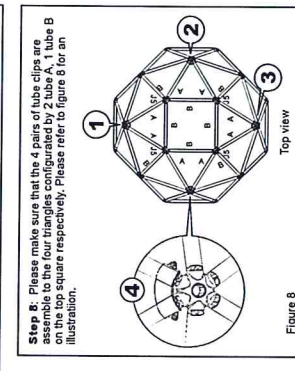

Figure 8
**Step 8:** Please make sure that the 4 pairs of tube clips are assembled to the four triangles configured by 2 tube A, 1 tube B on the top square respectively. Please refer to figure 8 for an illustration.